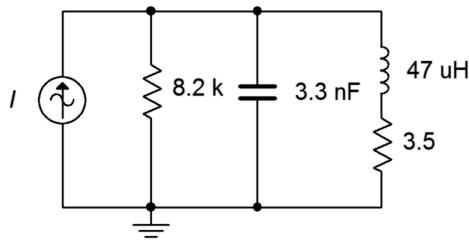

Figure 8.10
24. Given the circuit shown in Figure 8.10, determine the resonant frequency, system Q and bandwidth. If the source is 2.5 mA, determine the resistor voltage and the three branch currents at resonance.